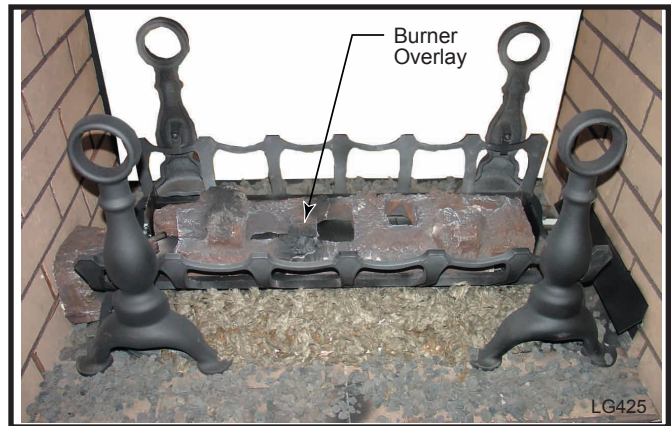

**Fig. 43** Lava rock and ember placement.
- Place the volcanic rock over the lower refractory in front of each burner tube assembly and around the burner assembly as desired. (Fig. 43) Do not obstruct fresh air inlet with volcanic rock.